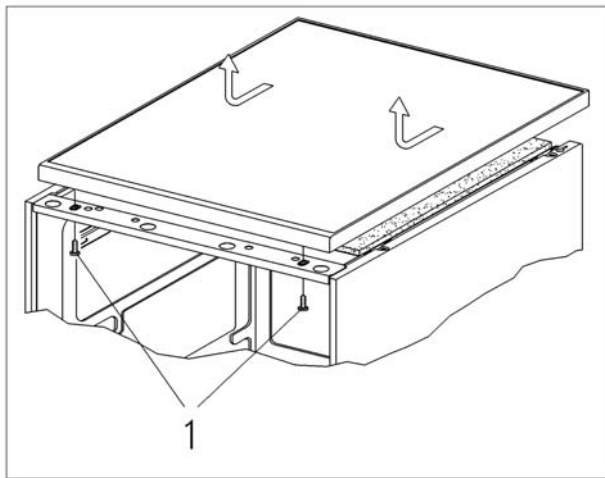

Figure 5-7: Lid Removal
2. Remove the screws, Fig 5-7, Item 1.